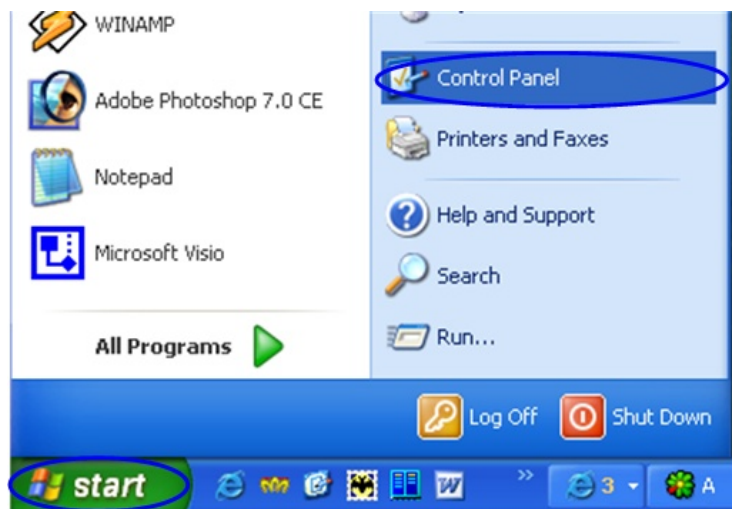

Figure 10. Open Control Panel
1. Open the Control Panel in Windows. See Figure 10